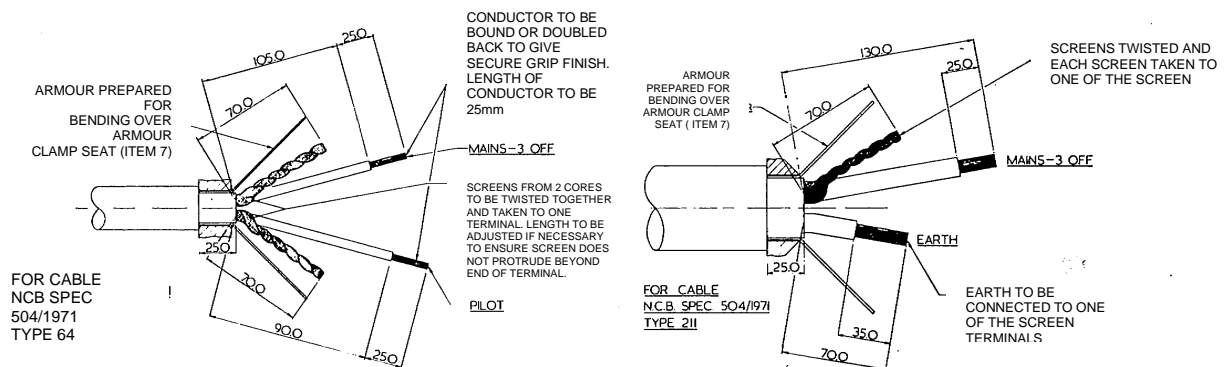

Fig.6 SCREENED TRAILING CABLE MAKE OFF
2. Strip off outer sheath to approximately 160mm from end of cable. Thread Armour Clamp Seat over cable up to the end of the outer sheathing. Bend back armour wire, as equally spaced as possible over tapered surface of seat, ensuring tapped holes are not covered. Cut off inner rubber sheathing level with the clamp and strip cable in accordance with the appropriate diagram (Fig.6). Baring of the power and pilot cores should be left until stage 4. The screens should be carefully twisted together ensuring that the maximum screen covering is maintained between the cores. Pass Armour Clamp over cable and firmly clamp armour by tightening the socket head cap screws. Trim off armour wire so that it is below the diameter of the seat and clamp. Thread on Spacer Tube.